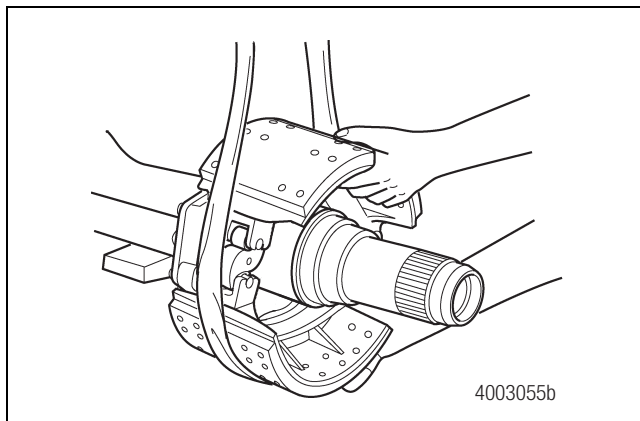

Figure 17.1
2. Carefully rotate and install the complete brake assembly into position. Figure 17.1.